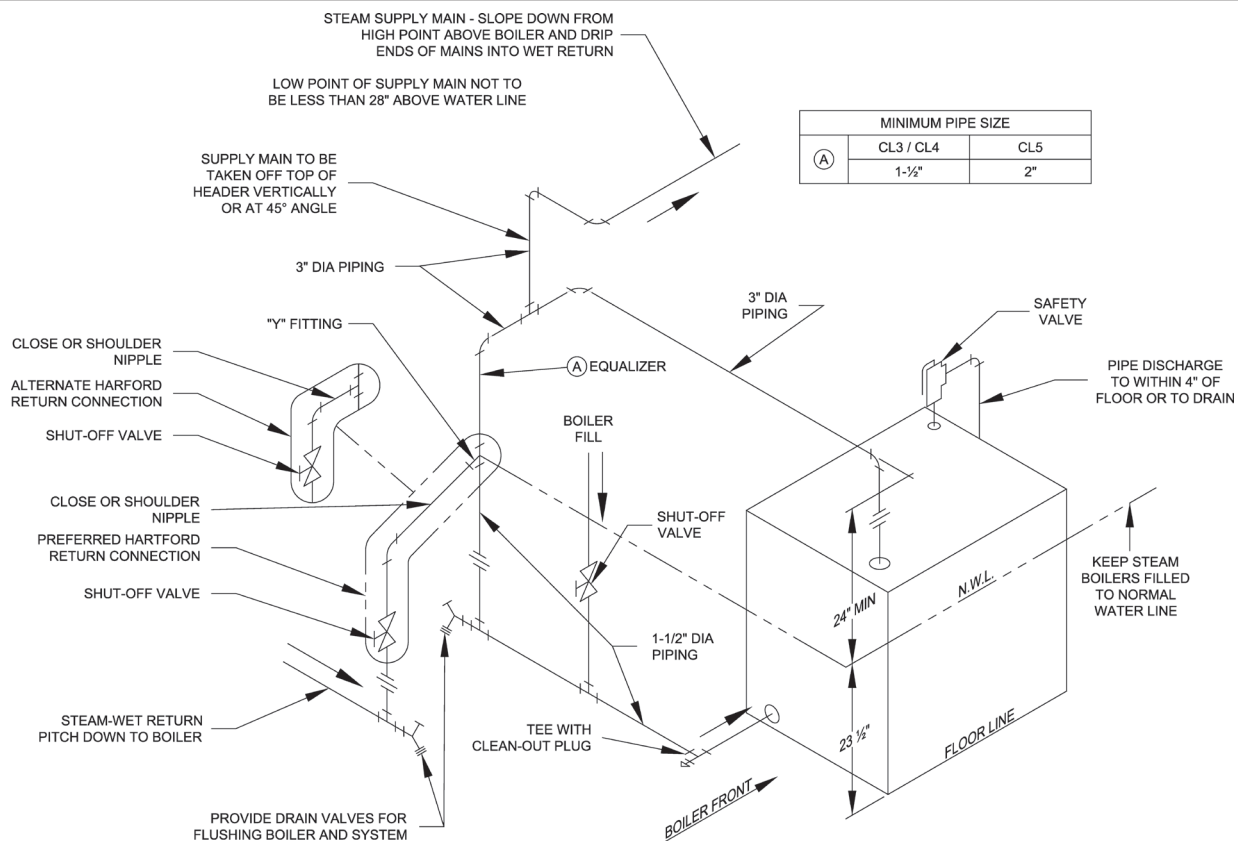

Figure 12: Recommended Boiler Piping For Gravity Return Steam Boiler
1. Thread 3/4" MPT safety valve and 3/4" NPT coupling onto factory installed 3/4" NPT x 7/4" nipple located in left rear corner on top of boiler as shown in Figure 1C. Tighten with wrench. Pipe discharge as shown in Figure 12. Installation of the relief valve must be consistent with ANSI/ASME Boiler and Pressure Vessel Code, Section IV.
2. Install $\frac{3}{4}$ " drain valve in wet return piping as shown in Figure 12.
- a. For Recommended STEAM BOILER PIPING refer to Figure 12. Also, consult I=B=R Installation and Piping Guides.